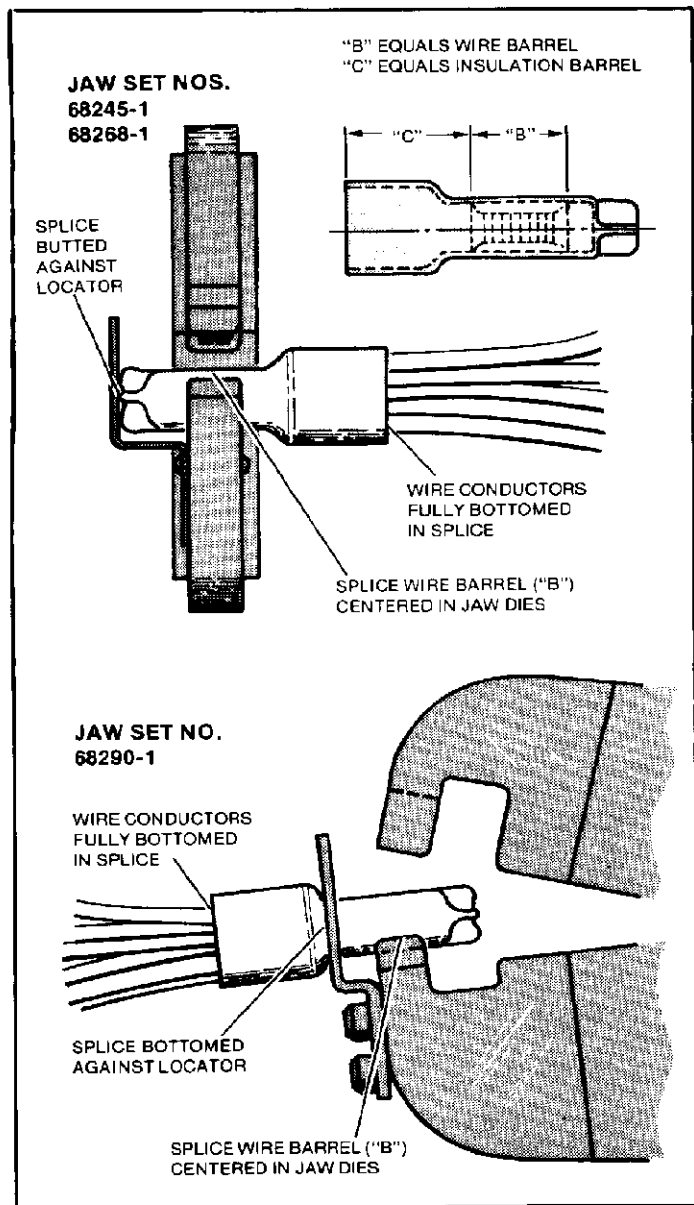

Figure 3
- Insert wire loaded splice into lower jaw die as shown in Figure 3.